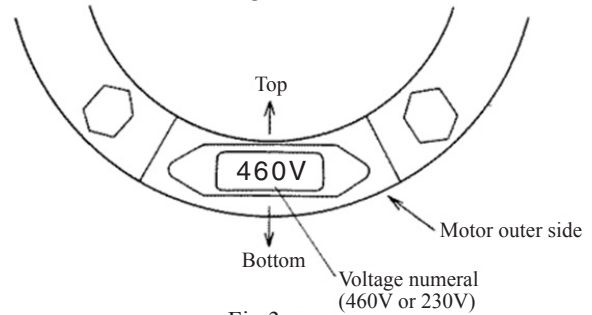

Fig.3
F. Insert the new voltage plug as shown in Fig.3. Note that the top of the numerals are toward the shaft and the bottom is near the outer side of the motor.